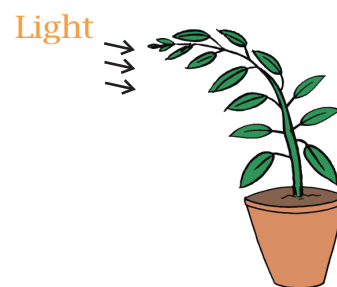

Fig. 25.2 A potted plant showing phototropism
- Keep one potted herbaceous plant on a table near a window for a week and the other in the open space (Fig. 25.2). Water the plant, regularly and observe.